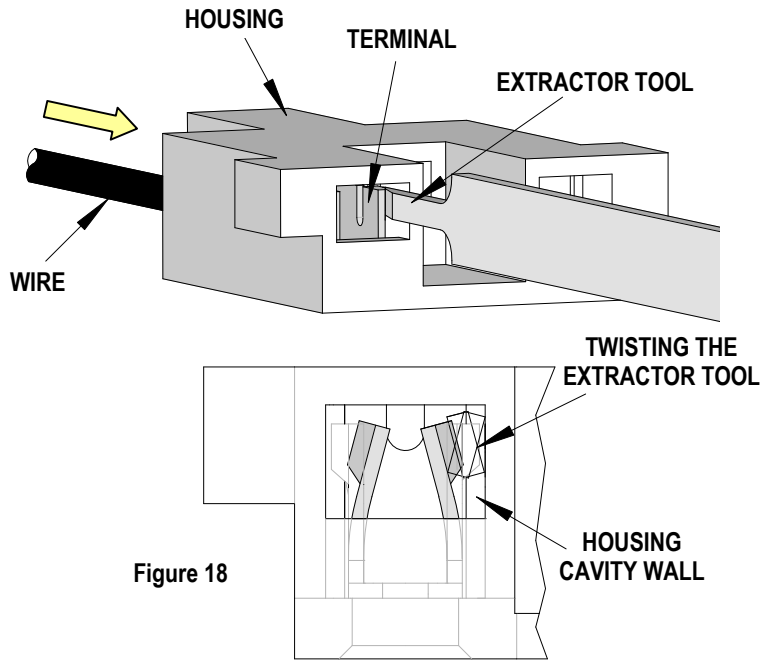

Figure 18
3. Using a twisting action bend the upper "U" channel towards the middle of the terminal. See Figure 18.